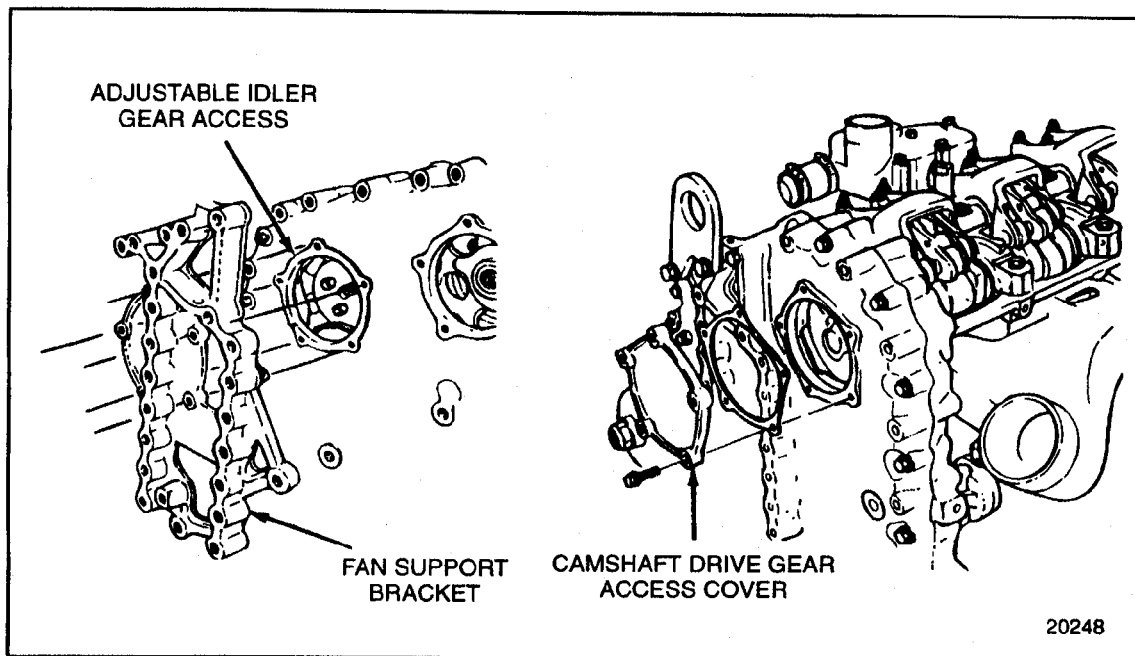

Figure 1-333 Camshaft Drive Gear Access Cover and Adjustable Idler Gear Access
Access openings are provided in the gear case cover for camshaft drive gear lash adjustment and camshaft retaining bolt removal. See Figure 1-333.
2. Remove the five bolts that secure the camshaft drive gear access cover to the gear case. See Figure 1-333.